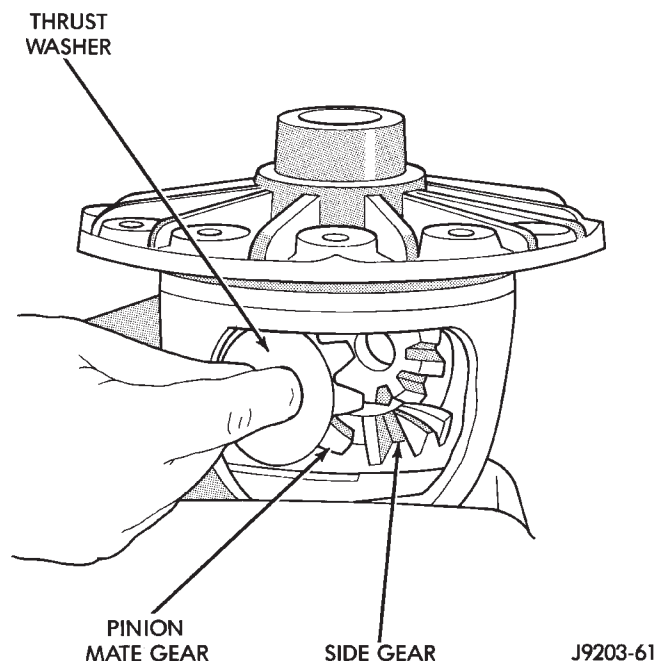

Fig. 52 Pinion Mate Gear Removal
- (3) Remove the pinion gear mate shaft from the differential case and the pinion mate gears.
- (4) Rotate differential side gears and remove the pinion mate gears and thrust washers (Fig. 52).
- (5) Remove the differential side gears and thrust washers.